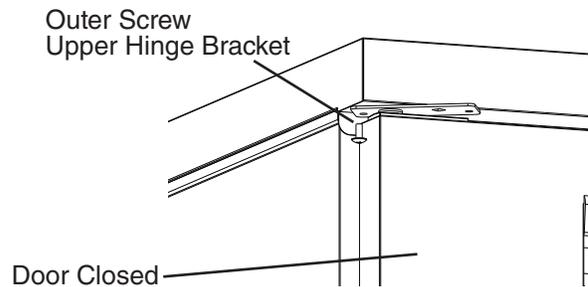

Fig. 15
- 12) Install the outer screw into the upper hinge bracket. Do not tighten the screw yet. Start the screw for a few threads only and leave loose. See Fig. 15.